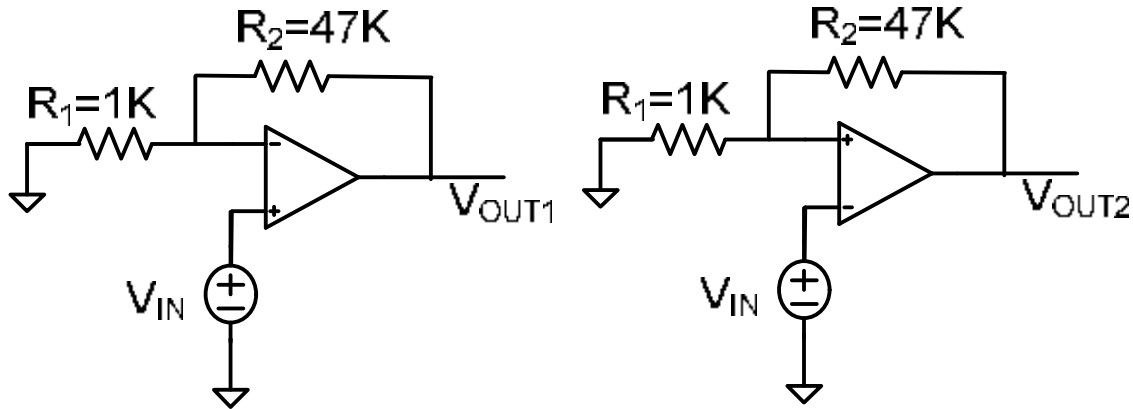
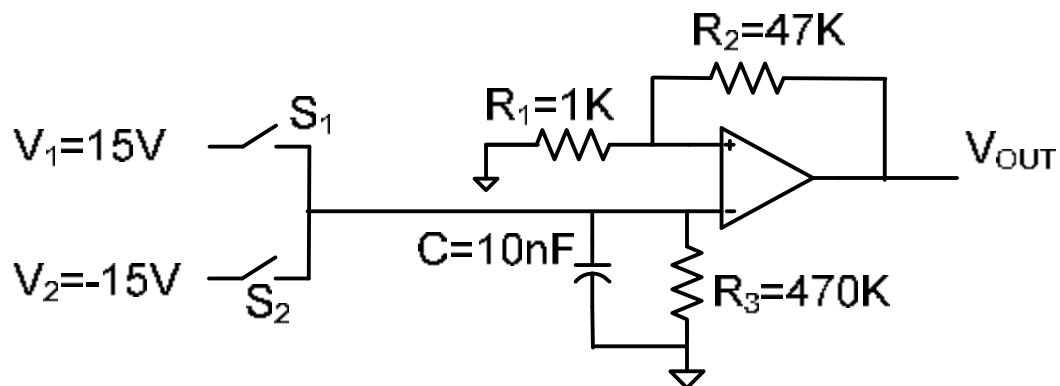

Fig. 4 Basic noninverting amplifier with alternative feedback approaches
Fig. 5 Positive Feedback Circuit
- c) The circuit shown in Fig. 5 is a slight variant of the circuit on the right of Fig. 4. Assume the op amp is biased with  $\pm 15V$  supplies. Although the capacitor  $C$  is likely not needed, please include it to reduce the chances of an occasional surprise in the performance of this circuit.